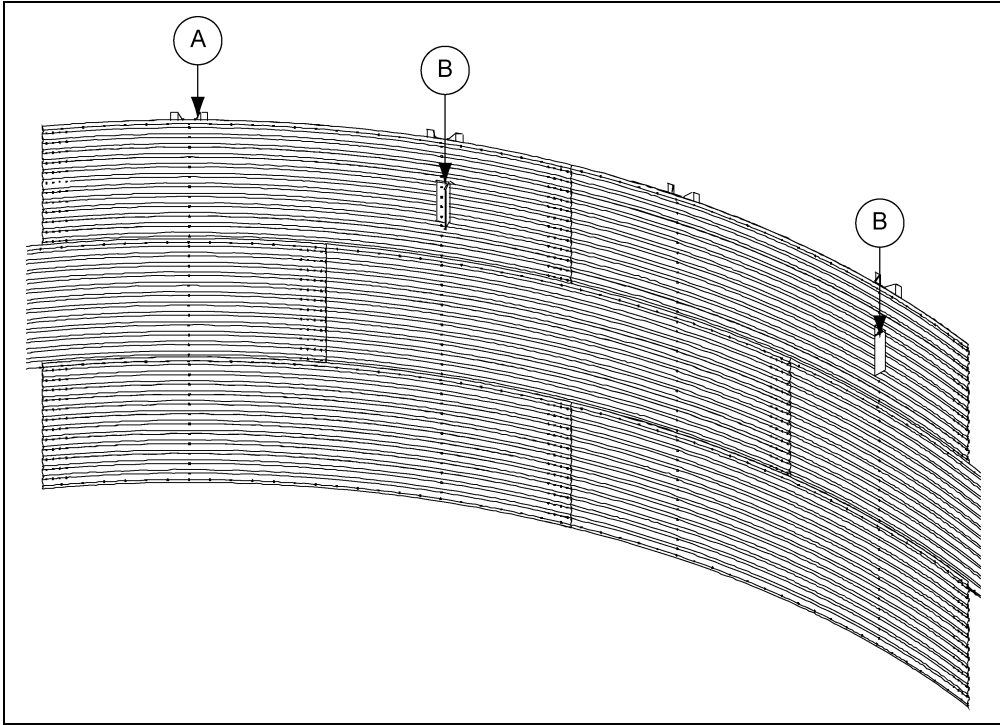
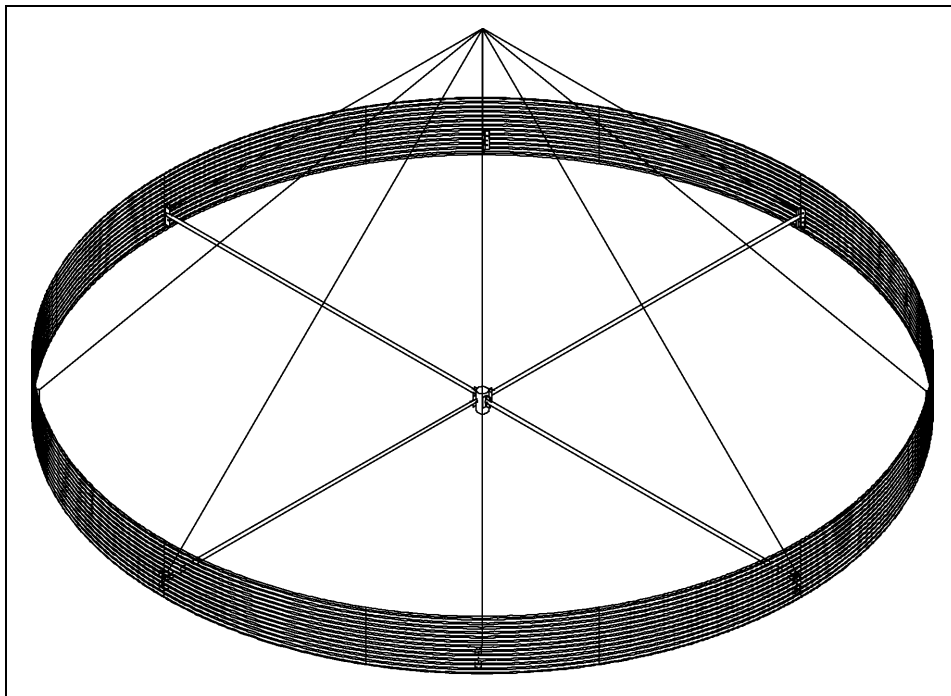

Figure 15A
Figure 15B
- a. Lifting brackets should be attached to the stiffeners. At least one bracket per sidewall sheet should be used. These are usually attached in the third ring from the bottom of the tank. Brackets should attach to a minimum of four (4) bolts through the stiffener. Attach cables to the lift brackets and to the crane hook, which has been lowered through the center ring opening. Cables should be sized to handle the entire weight of the bin. Make all lift cables of equal length before the bin is lifted. Refer to Figure 15A and Figure 15B on Page 80.